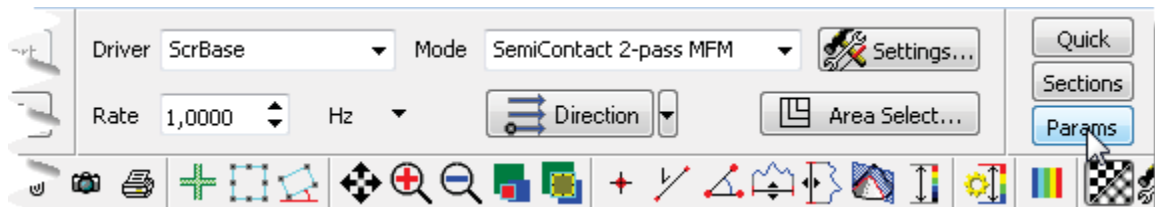

Fig. 9-5
1. Open the Additional Scanning Parameters panel by clicking the **Params** button in the **ScanForm** window (Fig. 9-5).